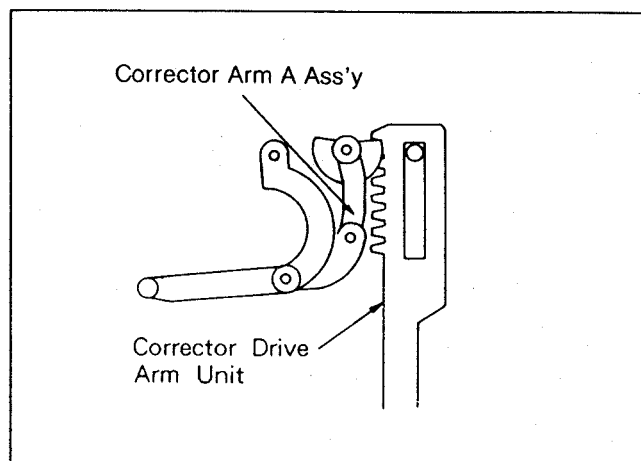

Fig. A6
- 35) Reinstall corrector arm A so that the first tooth on the corrector arm engages the first groove of the corrector drive arm. See Fig. A6.